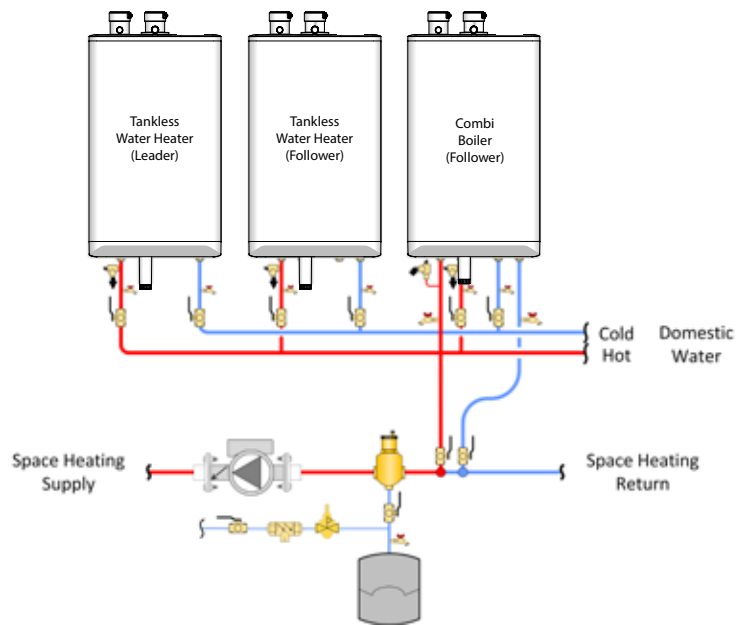

Figure 2: Typical Tankless Water Heater and Combi Boiler cascade piping – concept drawing. This drawing is only a simple schematic guide
Tankless Water Heater cascade systems should utilize an appropriately sized common header as shown in Figure 2. Reference Table 7 for minimum common domestic hot water header sizing.
4. **Enable cascade function (P130)** – Enable the cascade function of each unit according to the cascade system type. The cascade function of Tankless Water Heaters can only be enabled for DHW (P130 = 1). The cascade function of Combi Boilers can be enabled for any combination of space heating / DHW (P130 = 1, 2, 3) depending on the application. A Combi Boiler will respond to any local demand not enabled for cascade, see Figure 2.